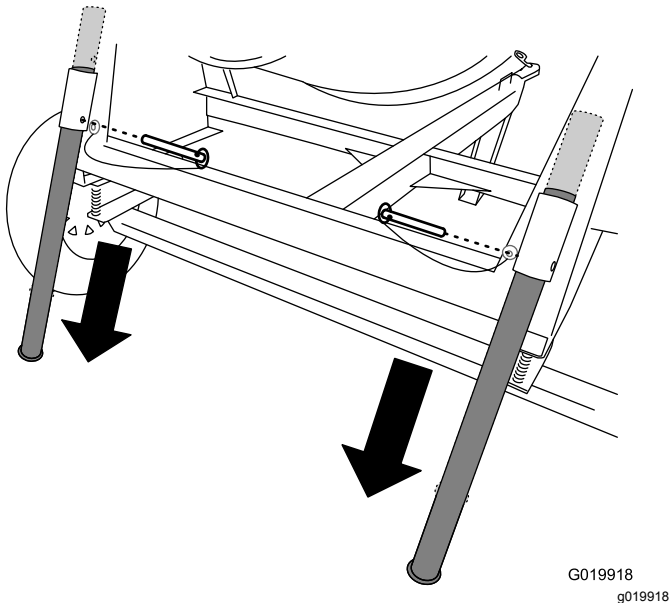

Figure 29
1. Pull the clevis pin out from 1 stabilizer leg and the bracket (Figure 29).
2. Slide the stabilizer leg down in the bracket and align the pin hole of the bracket with the upper hole in the stabilizer leg (Figure 29).
3. Push the clevis pin through the hole in the bracket and the stabilizer leg (Figure 29).